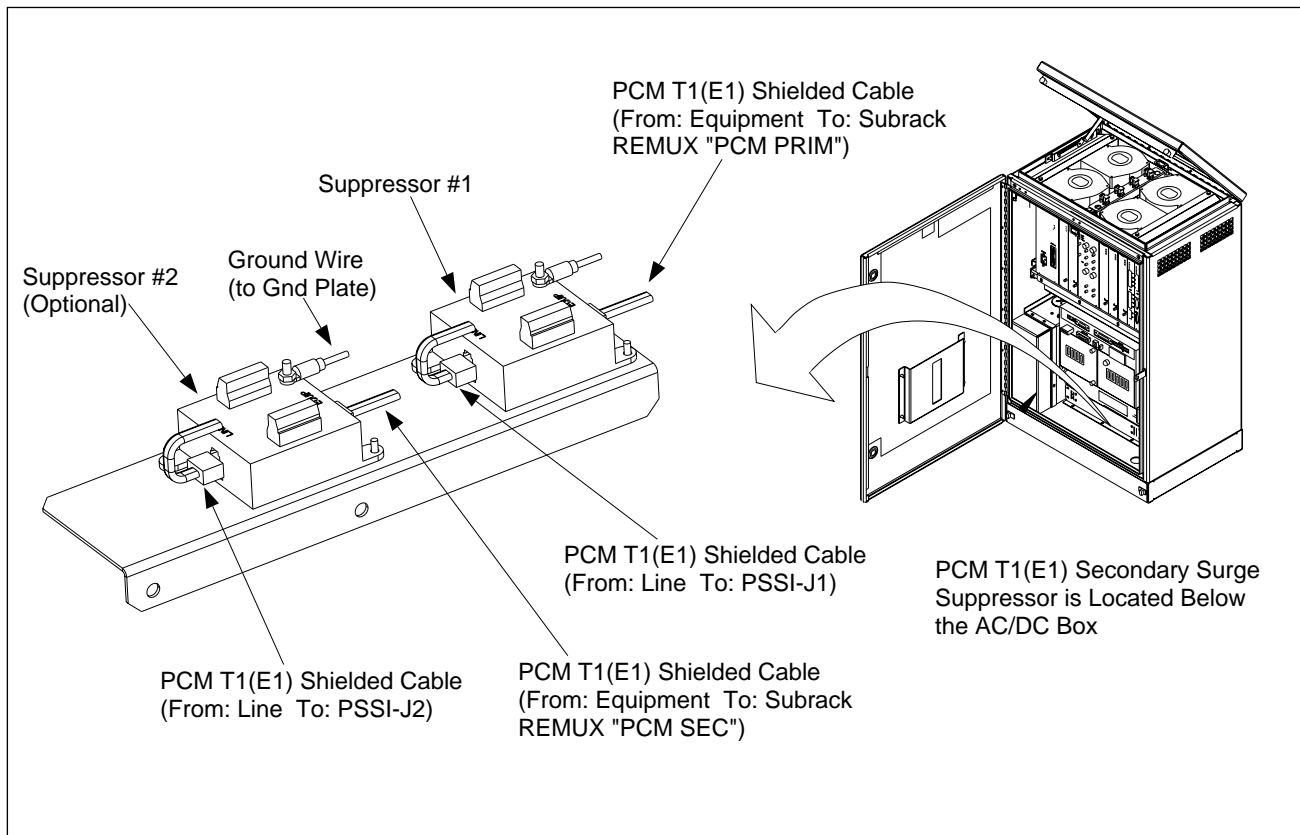

Figure 5-30. PCM T1(E1) Secondary Surge Suppressor Assembly
3. Locate the PCM Secondary Surge Suppressor. See Figure 5-30 on page 5-57.